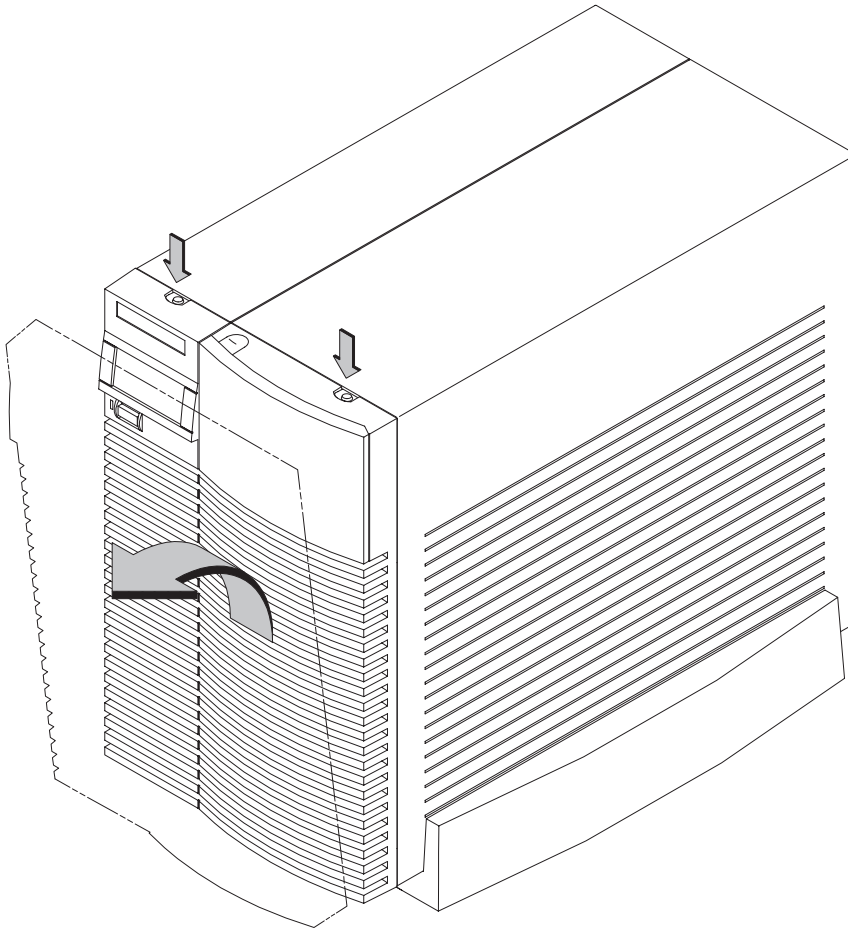

Figure B-1. Removing the Front Panel
- 3.** Press down on the two buttons on the top front of the workstation, releasing the front panel (also known as the front bezel) as shown in Figure B-1.